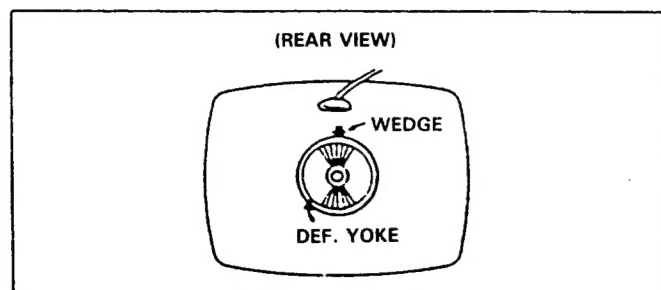

Fig. 2-9
2. Adjust the convergence around the edges of the picture tube tilting the yoke, up-down and left-right. Temporarily install one wedge at the top of the yoke. (Fig. 2-9, 2-10, 2-11)